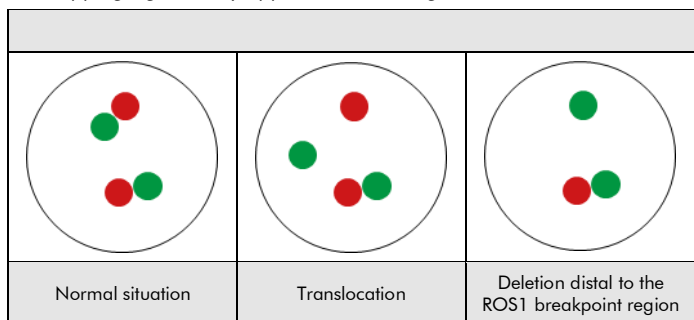

Fig. 2: Expected results in normal and aberrant nuclei
**Normal situation:** In interphases of normal cells or cells without a translocation involving the ROS1 gene region, two red/green fusion signals appear (see Fig. 2).
**Aberrant situation:** One ROS1 gene region affected by a translocation is indicated by one separate green signal and one separate red signal. Isolated green signals are the result of deletions distal to the ROS1 breakpoint region or are due to unbalanced translocations affecting this chromosomal region (see Fig. 2).